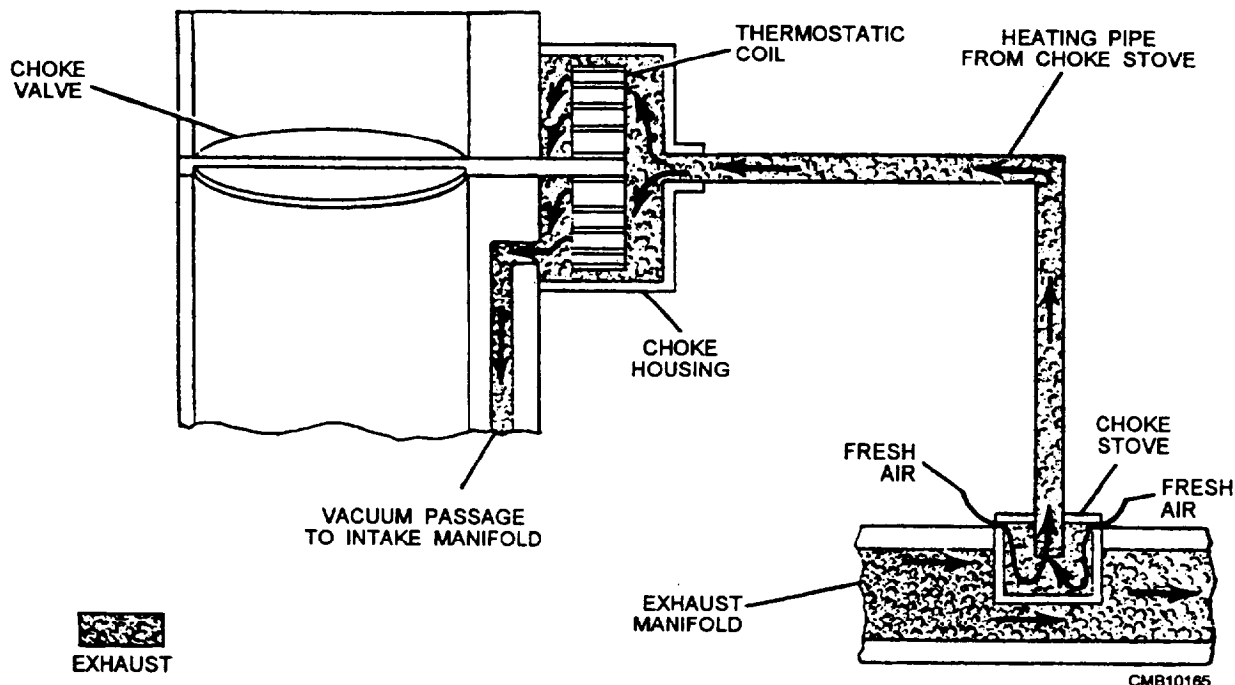

Figure 4-36.—Exhaust-manifold heat-tube choke.
- **The EXHAUST MANIFOLD** (fig. 4-36) uses heat from the exhaust manifold to heat the thermostatic spring. The exhaust heat is brought to the choke through the means of a heat tube. The heat tube passes through the exhaust manifold, so as it takes in fresh air via the choke stove, it picks up heat from the exhaust without sending any actual exhaust fumes to the choke mechanism.